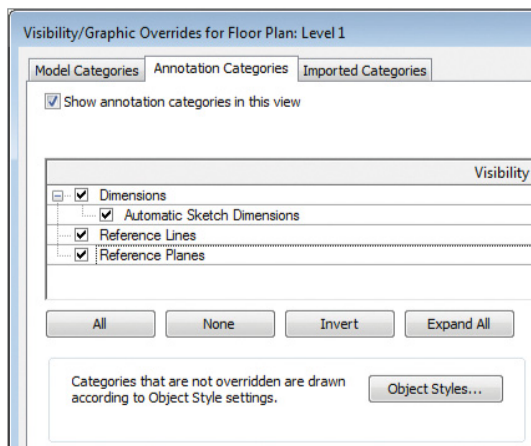

FIGURE 6.17 Adjusting the Visibility/Graphic Overrides properties of the profile
2. There are some parameters that you want to maintain in this family. To make them visible, go to the Visibility/Graphic Overrides dialog box (type **VG** on your keyboard), and select the Annotation Categories tab. Select all the options, as shown in Figure 6.17, and click OK to close the dialog box.